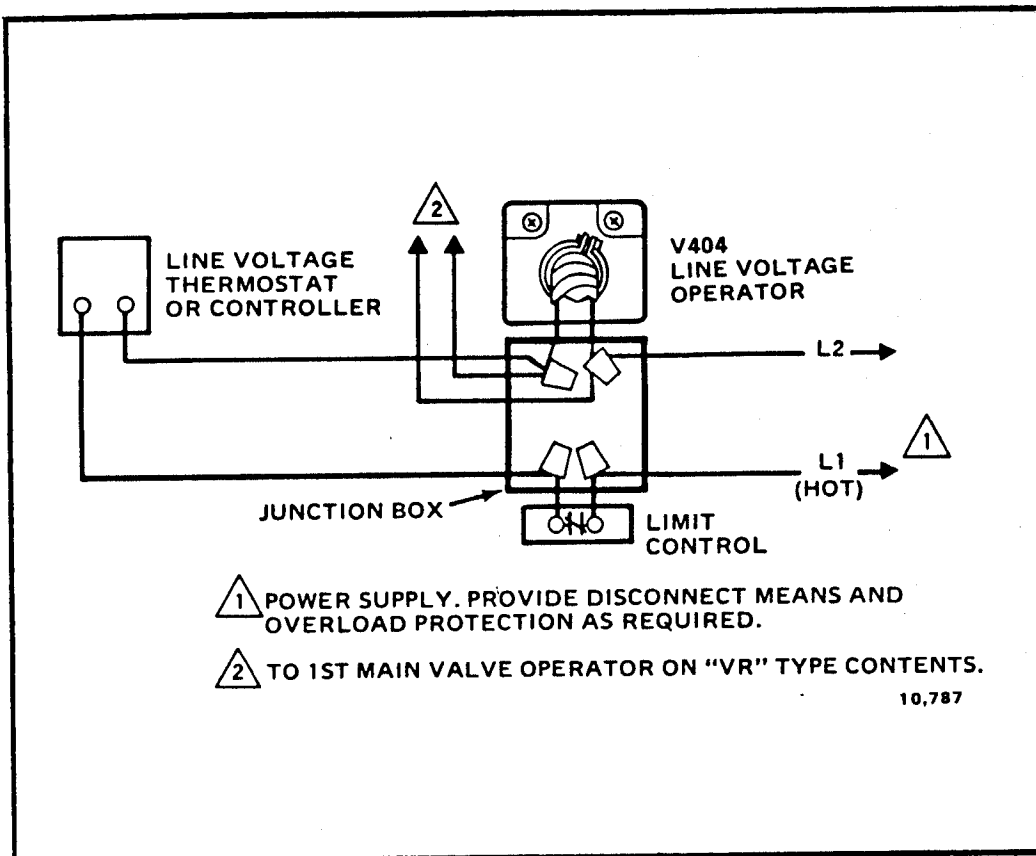

Fig. 10—Typical wiring diagram for the V404A, 120 V operator.
1. Install the line voltage thermostat (or controller) and other controls as required (Fig. 10).